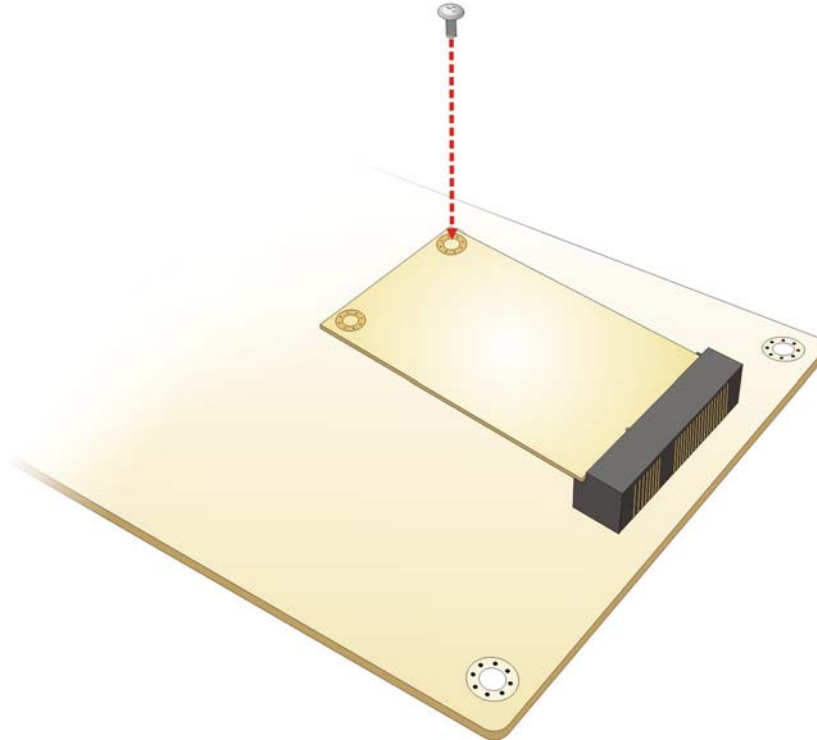

Figure 4-5: Securing the Full-size PCIe Mini Card
Step 5: Secure the full-size PCIe Mini card. Secure the full-size PCIe Mini card with the retention screw previously removed (**Figure 4-5**).
Step 4: **Secure the half-size PCIe Mini card.** Secure the full-size PCIe Mini card with the retention screw previously removed (**Figure 4-5**).